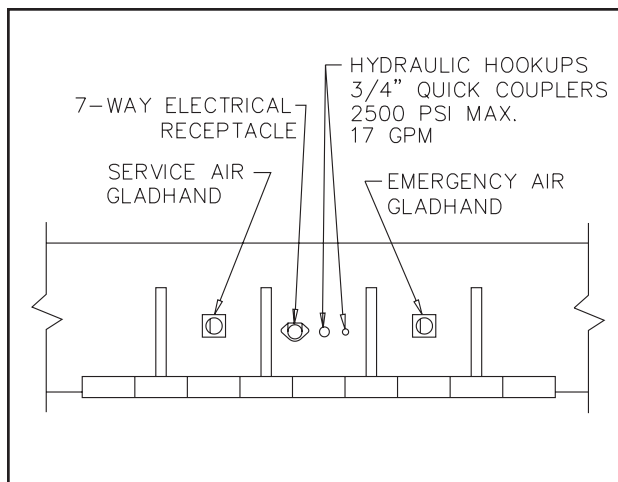

Figure 3-3 Service Hookups
3-2.3 Connect the service and emergency air hoses of the towing vehicle to their respective gladhand on the front of the semitrailer; red emergency line to the gladhand with the "**EMERGENCY**" tag, and the blue service line to the gladhand with the "**SERVICE**" tag (See Figure 3-3). Chock the semitrailer wheels before activating the semitrailer air supply valve in the towing vehicle. Set the parking brakes.
- 3-4.1 Connect the towing vehicle 7-pole electrical plug to the electrical receptacle on the front of the semitrailer (See **Figure 3-3**).